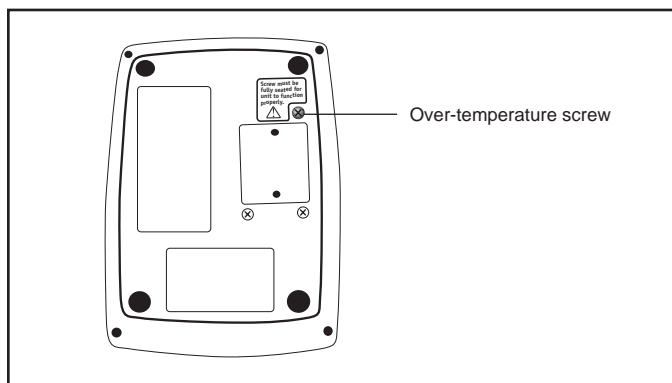

FIG. 3: RANGER OVER-TEMPERATURE SCREW
3. Slowly loosen the over-temperature screw on the bottom of the Ranger unit (see Figure 3). Listen for a slight click as the microswitch opens. **Stop turning the over-temperature screw as soon as you hear the click.** This unit is now in over-temperature test mode, and the temperature output of the unit should begin to rise. When the display reads 43°C, verify that an audible alarm sounds, the alarm light illuminates, and the display alternately flashes "HI" and the plate temperature.